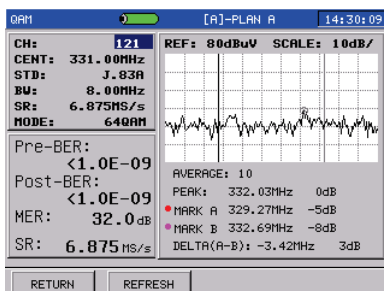

Figure3-2-11
**EVS(F2):** Press EVS soft key to enter EVS measurement interface as Figure 3-2-11.